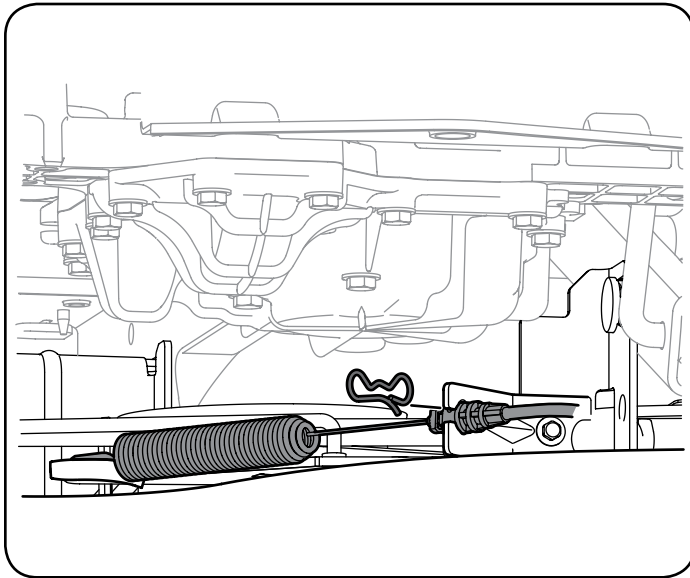

Figure 26
- e. Remove the bow-tie pin that secures the PTO cable to the bracket on the deck, pull back on the PTO cable, then slide it out of the bracket and unhook the spring from the idler bracket. See Figure 26.